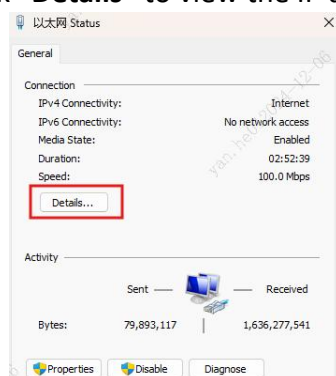

Fig.40
- ① When the computer and printer are directly connected using a network cable, the computer's IP address during the direct connection can be viewed through the Control Panel (path: **Control Panel** → **Network and Internet** → **Network and Sharing Center**). Click "Ethernet" in the interface, and after entering the interface, click "Details" to view the IP address(shown in Fig.40 and 41).